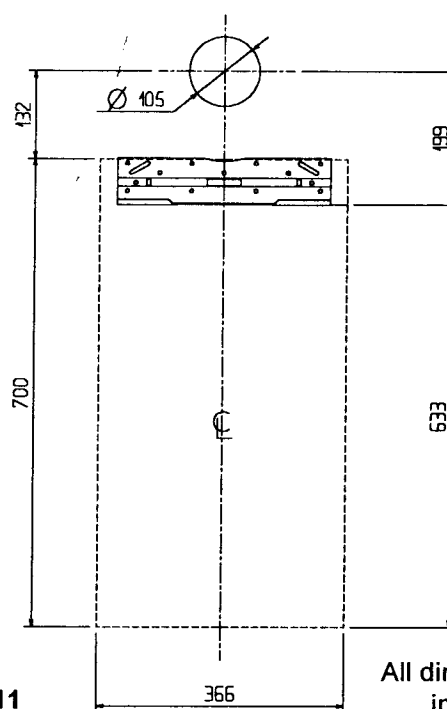
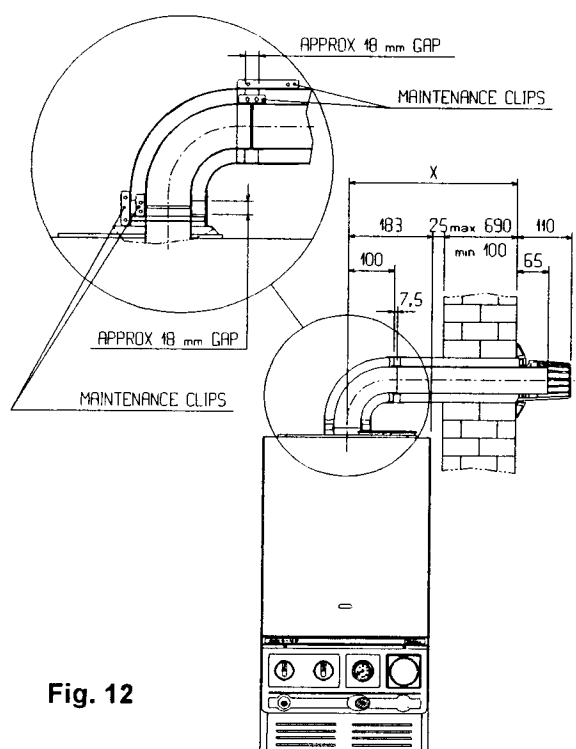
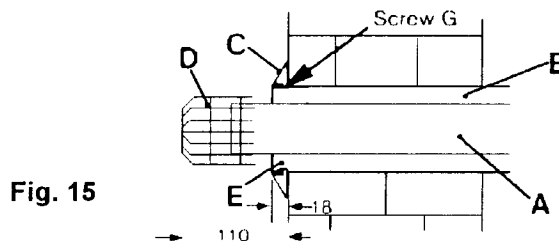
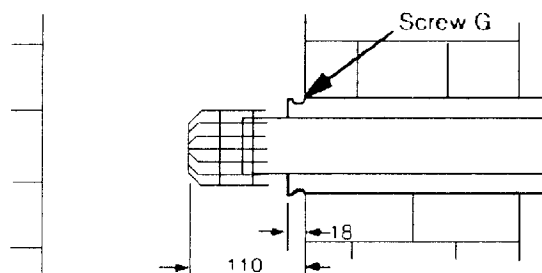

Fig. 11
Fig. 12
Fig. 15
Fig. 16
5.4 MOUNTING THE APPLIANCE (Ref. Fig.11)
Alternatively, position bracket and holes to dimensions in Fig. 11.
Refer to fig. 11 and figs. 12 - 16 for relevant dimensions for locating the hole. Where it is remote from the boiler take special care to ensure the hole is at the correct level so that the finished flue is horizontal.
5.5.1 Refer to figures 12 - 16
5.5.3 Hang the boiler on the bracket. Adjust the boiler sideways to its correct position. Locate the small maintenance clip on to the flue elbow (figs. 12 & 13) and assemble onto the flue outlet on the top of the boiler. Twist the flue bend to the outlet direction required, and tighten the maintenance clip to secure the flue bend in place. Carefully level across to check that the hole through the wall is at the same level as the flue bend.
5.5.4 Measure carefully from the actual face of the outside wall to the centre of the flue bend. (Dimension X on Figs 12 & 14)
NOTE: The two tubes must be separated by removing screw G (fig. 15) before cutting. The outer air tube should also be shortened by the same amount to allow a gap for easy working (see inset on fig. 12).
- 5.5.9** Ensure inner and outer terminal tubes are firmly fitted together with screw G (Fig. 15). Push the terminal tubes through the wall until the face of the outer tube protrudes 18mm from the face of the wall (Fig. 15). The terminal grill (D) will then protrude 110mm from the wall face.
- 5.5.16** Check also that the outer end of the flue projects as indicated in Fig. 15 or Fig. 16 if installed in a S.E. duct.
- 5.5.17** Referring to Fig. 12 fit the large maintenance clips into position and secure the clip screws.
- 5.5.19** Seal the peripheral gap around the outer tube with cement or mastic and slip the cosmetic flexible plastic collar (Fig. 15) item C) into groove on the pipe.
- 5.5.21** Assemble the large and small maintenance clips as shown in Fig. 12.
- 5.5.29 Referring to Fig. 12 fit the large maintenance clip into position and tighten clip screws.
- 5.5.32 Subtract 97mm from the dimension and cut the outer tube to this length. NOTE: The two tubes must be separated by removing screw G Fig. 15 before cutting.
- 5.5.39 Referring to Fig. 12 fit the large maintenance clip into position and secure clip screws.